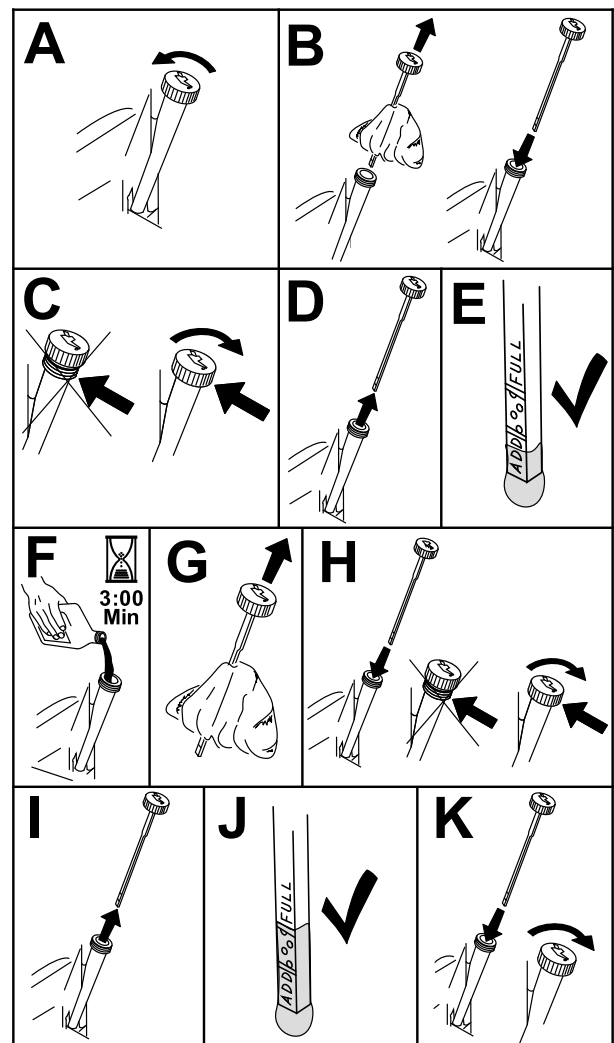

Figure 39
3. To keep dirt, grass clippings, etc., out of the engine, clean the area around the oil-fill cap and dipstick before removing it (Figure 39).